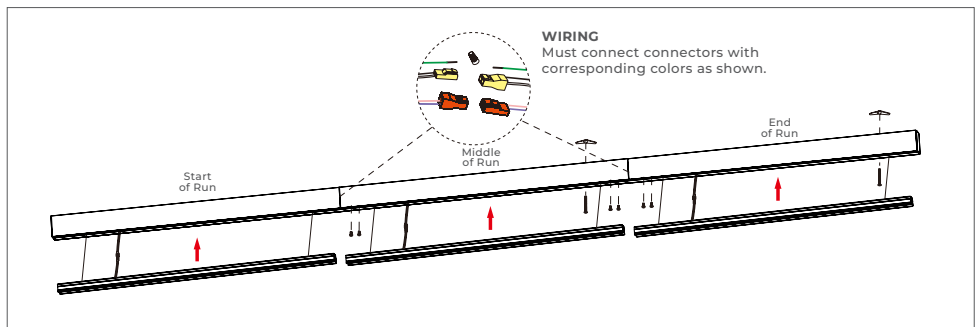

FIGURE 6-7
- 8) Repeat for each fixture as shown in diagram below. (Figure 6-7)